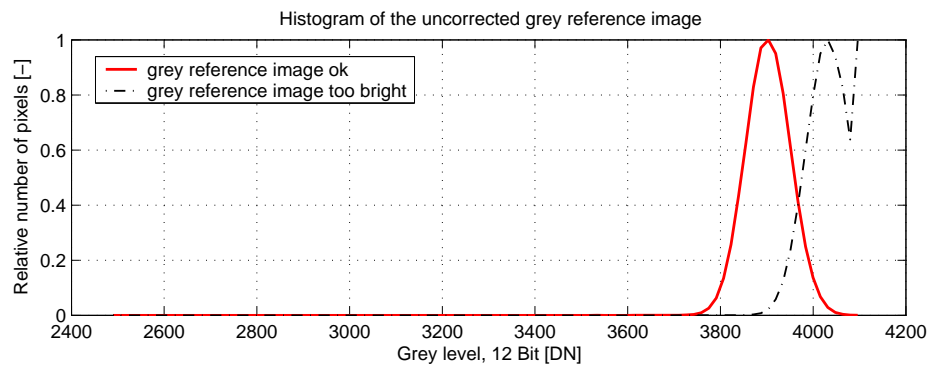

Figure 4.37: Proper grey reference image for gain correction
- When looking at the histogram of the grey reference image, ideally there are no grey levels at full scale (4095 DN @ 12 bit). All pixels that are saturated white will not be properly corrected (see Fig. 4.37).